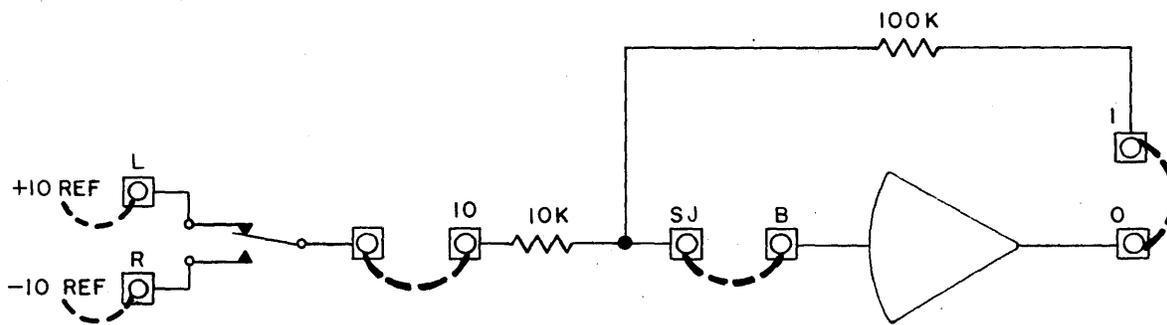

FIGURE 2.1-9. AMPLIFIER STABILIZER TEST SETUP
(1) Patch the amplifier as shown in Figure 2.1-9. The gain-of-ten input should cause the amplifier to overload.